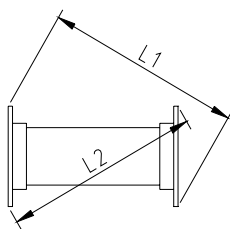

Fig.21 Rectangle duct
10. The absolute value of difference between diagonal lines of rectangle flange should be $|L1-L2| \leq 3$, as shown in fig.21.